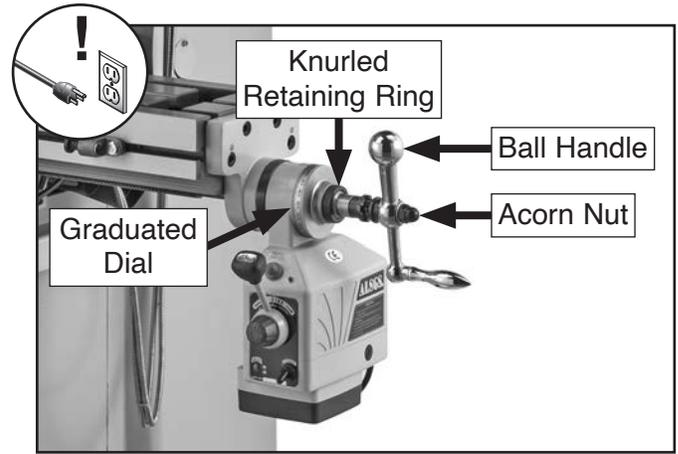

Figure 45. Ball handle components.
2. Remove acorn nut, flat washer, ball handle, and compression spring from power unit end of X-axis leadscrew (see **Figure 45**).